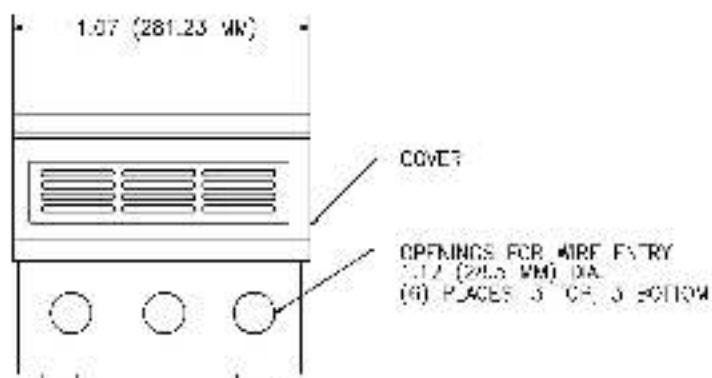

Figure 3 - Mounting the FlexPak 3000 Drive
- Step 9. At the location you selected, mount the drive vertically, using the four (4) mounting slots on the drive. Refer to figure 3 as a guide for mounting the drive.